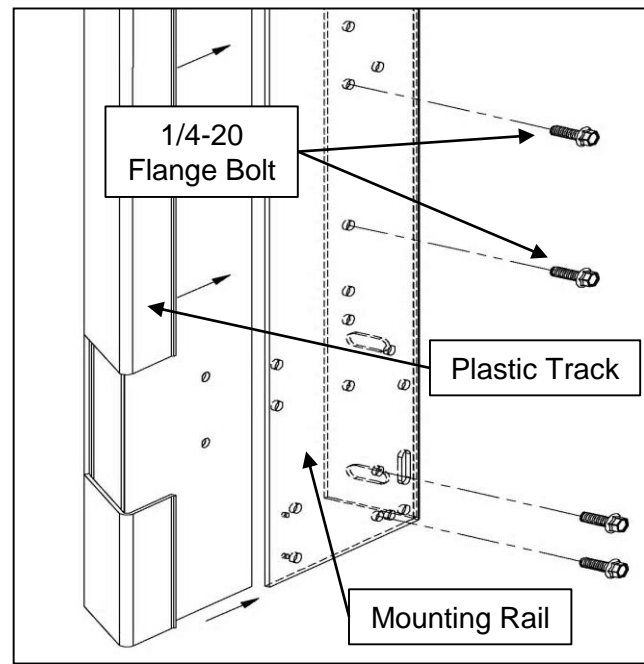

Figure 5 Attaching plastic door track.
- Insert $\frac{1}{4}$ " – 20 x $\frac{3}{4}$ " flange bolt through the holes so that the head is outside the track (touching the mounting rail) and the $\frac{1}{4}$ "-20 flange nuts are inside the track (touching the plastic track.) **(SEE FIGURE 5)**